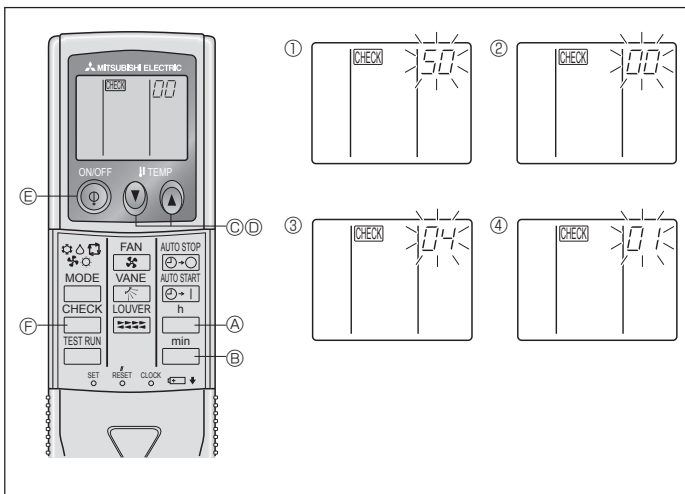

Fig. 6-10
⑧ Press the MODE button \odot and mode and the setting number (I) and (II) will change to being on constantly and the contents of the setting can be confirmed.
⑨ Press the FILTER \odot and TEST RUN \odot buttons simultaneously for at least 2 seconds. The function selection screen will disappear momentarily and the air conditioner OFF display will appear.
2) For wireless remote controller (Fig. 6-10)